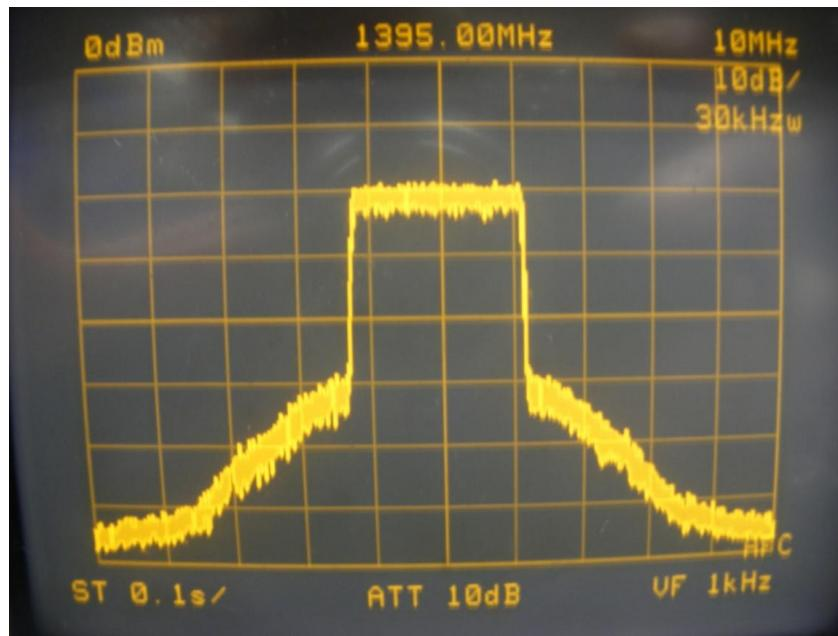

Figure 11: Shoulder performance
- Confirm the Spectrum Analyser display is similar to that shown in Figure 11.